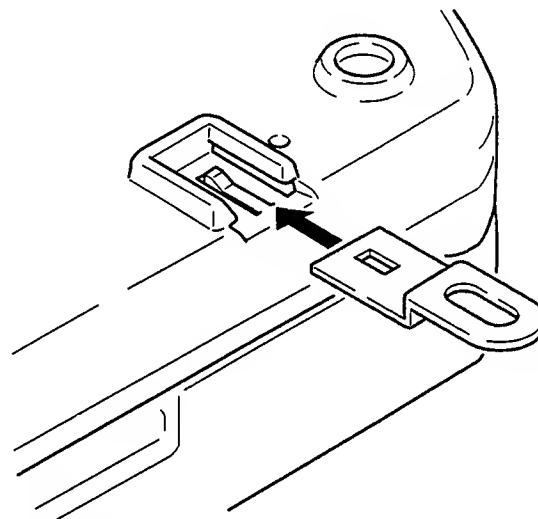

Figure 7: Mounting Bracket Installation
21. Install the four (4) mounting brackets to the underside of the "A" cartridge as shown in Figure 7.